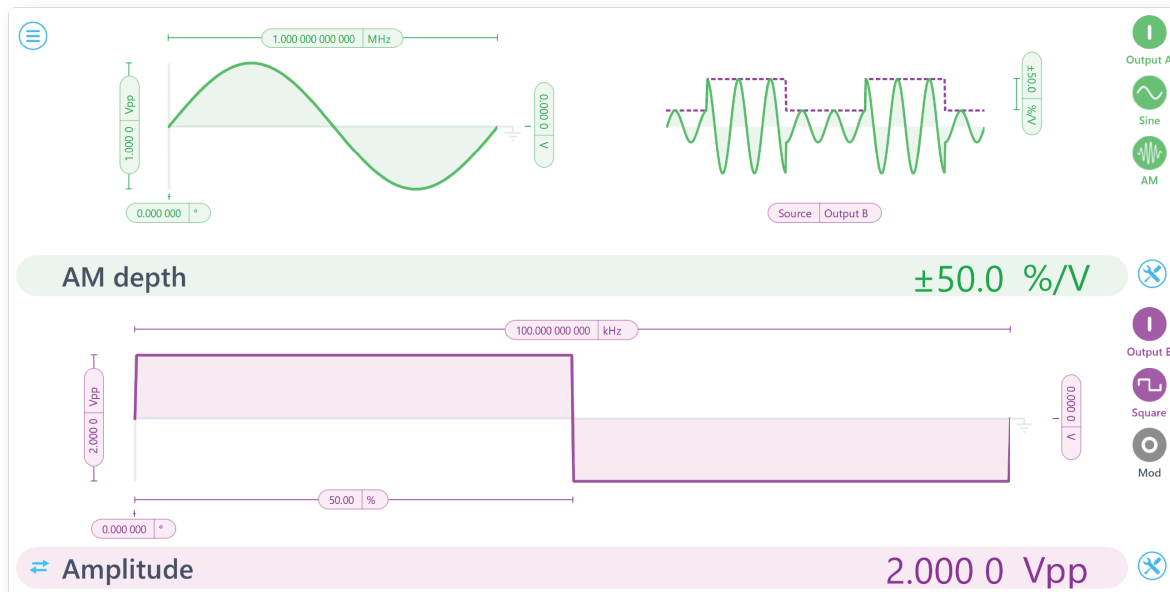

Figure 52. Waveform Generator guide to amplitude modulation
- On the right side of Output 1, select the modulation type to be amplitude modulated (AM)
- A preview of the waveforms will be shown in the Waveform Generator interface, as seen in Figure 52.